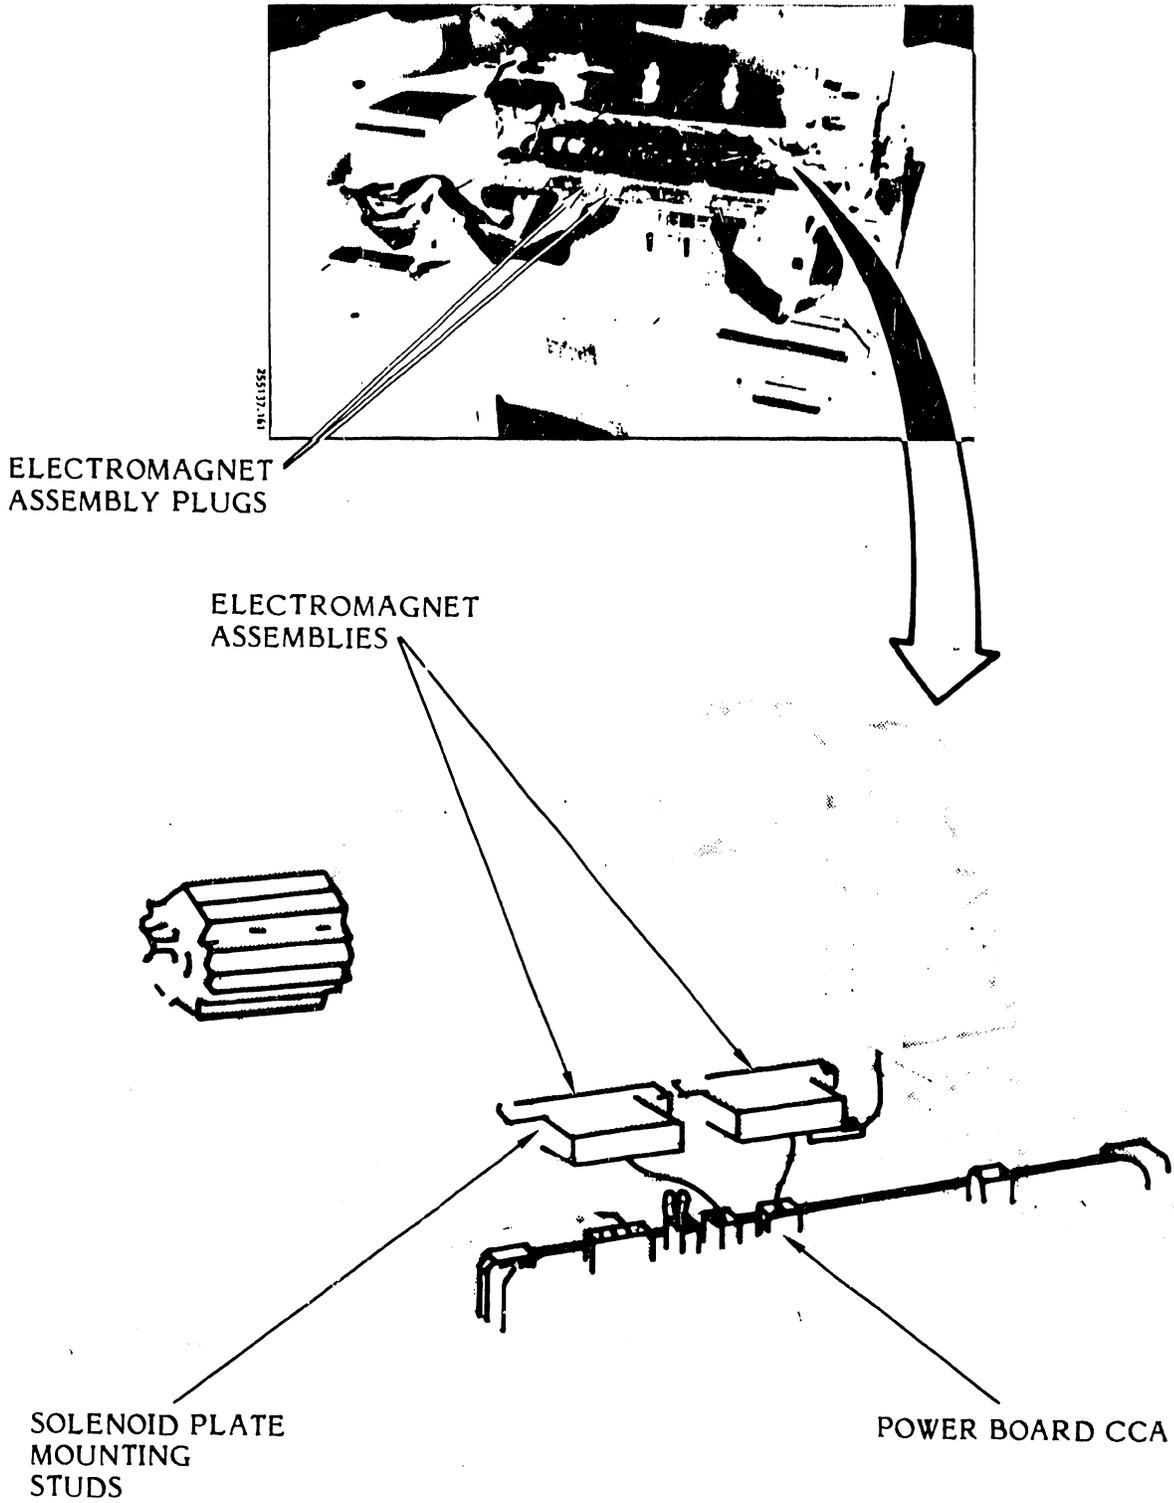

Figure 3-112. Paper Clamp Solenoid (600 LPM Printer) Removal/Installation
### 3.7.41 Paper Clamp Solenoid (600 LPM Printer) Removal/Installation (Figure 3-112)
- e. Use a 7 mm nut driver attachment and a ratchet driver to remove the two mounting nuts and electromagnet from the solenoid mounting plate (see figure 3-112).